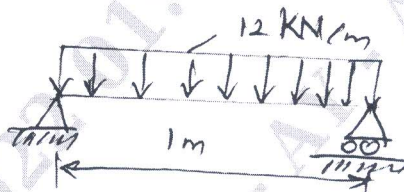

Fig.Q9(a)
- 9 a. Fig.Q9(a) shown in simply supported beam subjected to a uniformly distributed load. Obtain the maximum deflection. Take young's modulus $E = 200 \text{GPa}$ and moment of inertia $I = 2 \times 10^6 \text{mm}^4$.